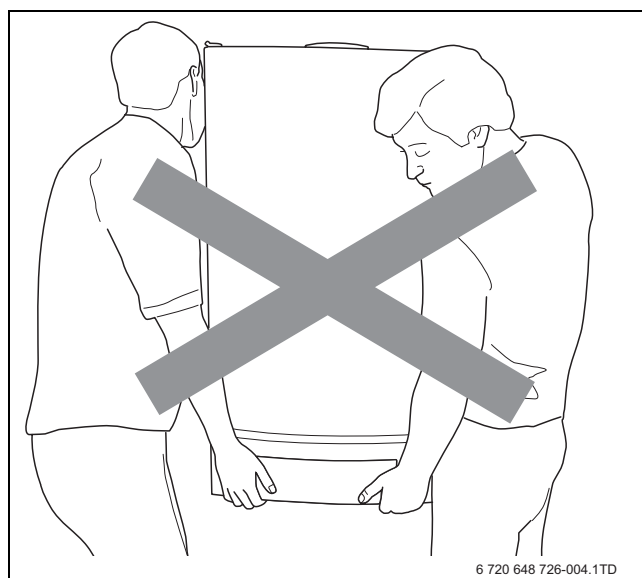

Fig. 4 Incorrect way of lifting and carrying the boiler
- ▶ Do not hold the boiler by the door over the control panel (→ fig. 4) to lift and carry it.